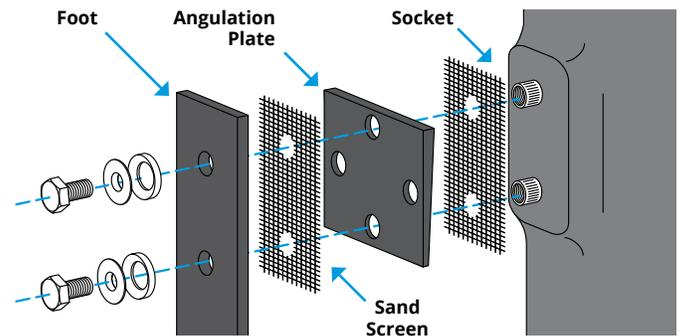

Figure 8
1. Use the provided bolts and spherical washer set to attach the foot to the plate. Tighten the bolts to 35 N·m. Threadlocker (one capsule provided) should be applied to both bolts connecting the foot to the plate (Figure 8). Be sure to check the torque of the bolts regularly throughout the life of the foot (a minimum of 3 - 6 months).